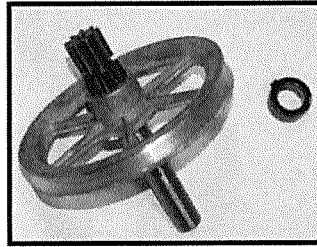

Fig.15: Ensure that lock ring has been removed from jackshaft.
2. Remove lock ring from jackshaft (Fig.15)